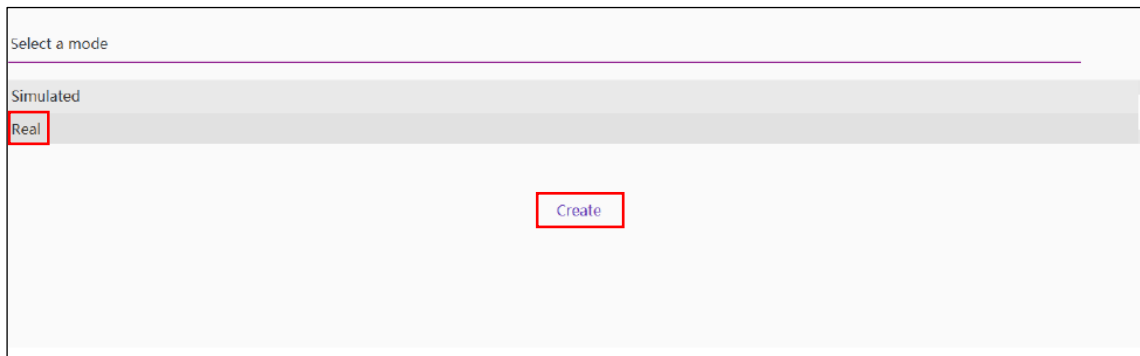

Figure 3-6 Login Interface
- 2) Enter identity authentication interface, as shown in Figure 3-6, and click **User Entry** in the lower right corner of the pop-up workflow.